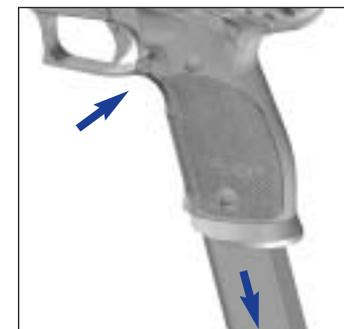

Fig. 2
2. Actuate the magazine catch 42 and remove the magazine (Fig. 2)
2. Actuate magazine catch 42 and remove magazine (Fig. 2)